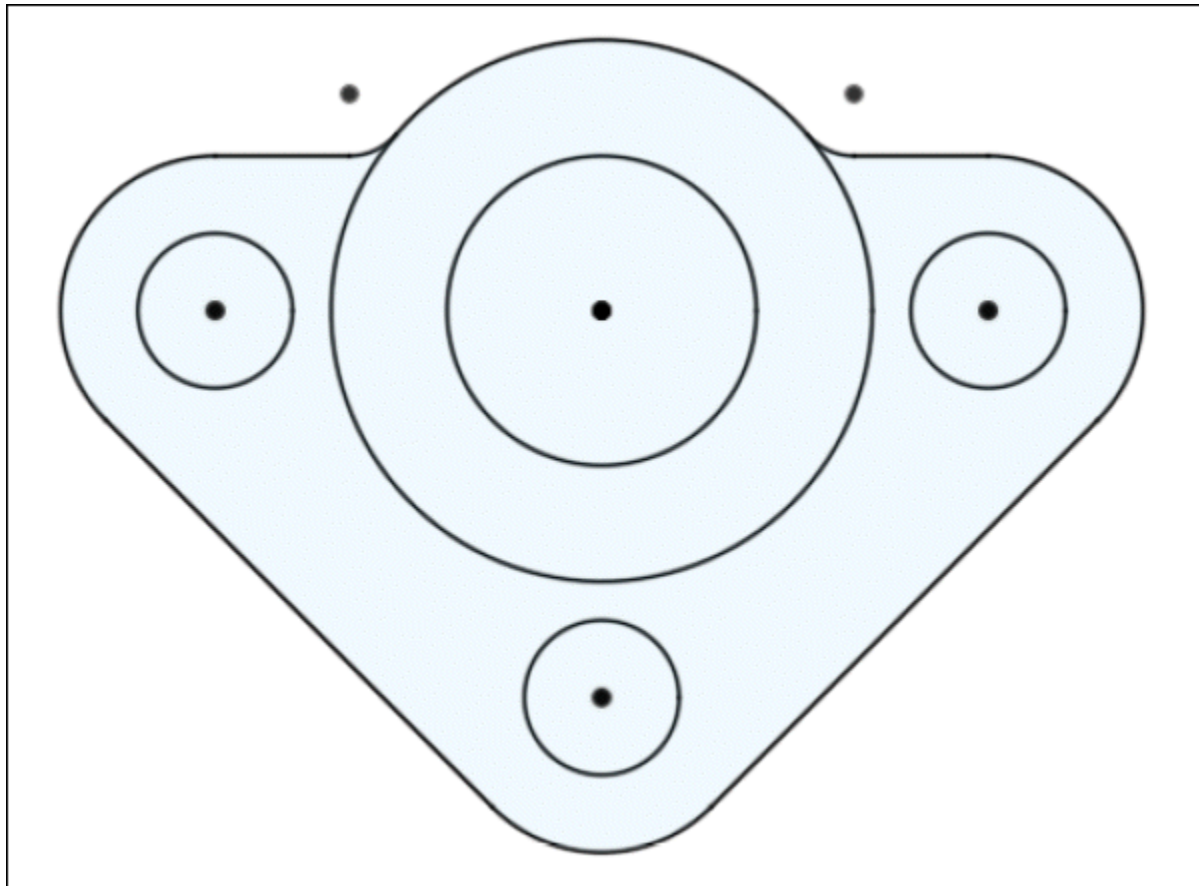

Figure-42. Sketch after trimming
- After removing extra entities from sketch, the sketch will be displayed as shown in Figure-42.